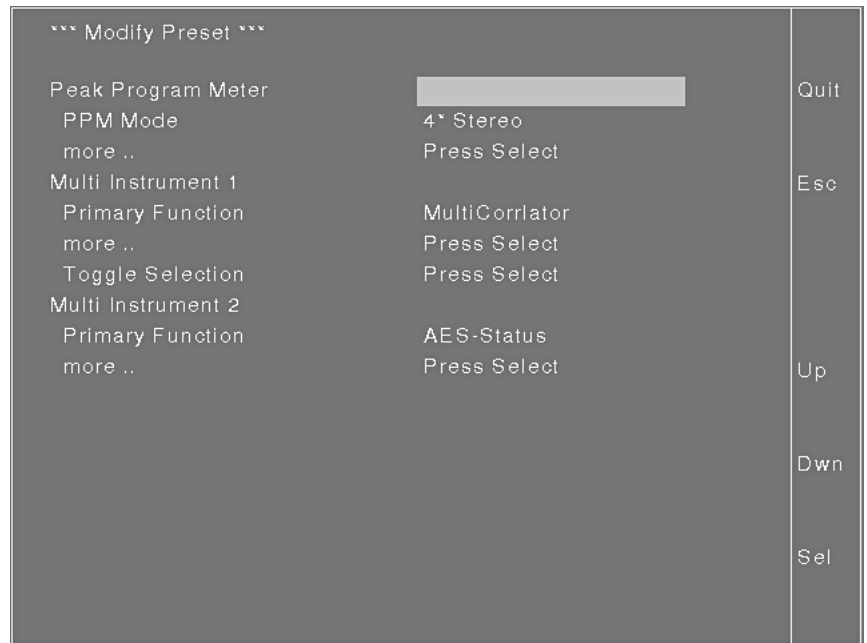

Fig. E 5-2: The Modify Preset menu of the DigitalMonitor 8ch 10689
- on Modify Preset menu (Fig. E 5-2):
The PPM features many configuration options. The **PPM Mode** can be changed directly in the **Modify Preset** Menu Screen with the **Sel** key while all other options can be accessed after pressing **Sel** when the **more ..** option is highlighted (see Fig. E 5-2).
on Modify Preset menu (Fig. E 5-2):